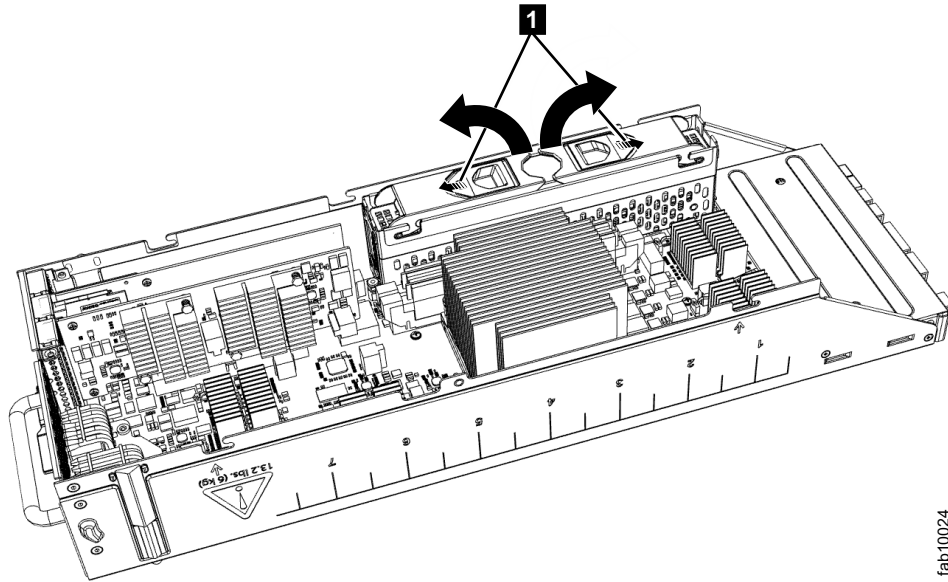

Figure 90. Opening latching arms to disconnect a Storwize V7000 Gen2 node canister battery
4. Spread the two blue battery latches outward as shown in Figure 90 on page 312. Raise open both latching arms of the battery simultaneously to disconnect the battery.